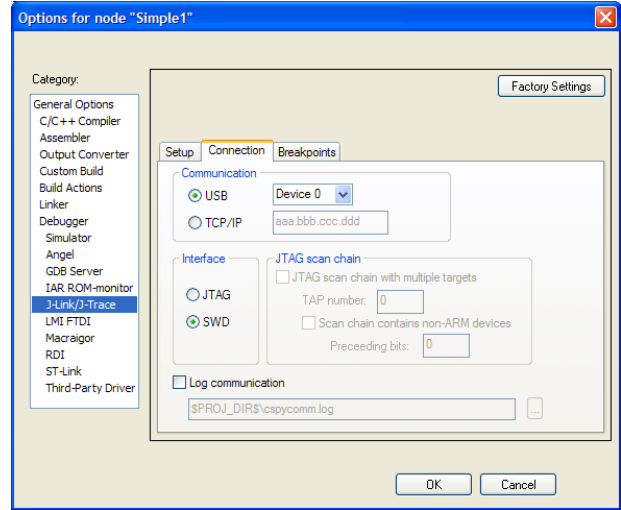

Figure 30. Selecting the Connection Options
- With **J-Link/J-Trace** still selected in the **Category** box, configure the **Connection** tab as shown in Figure 30.